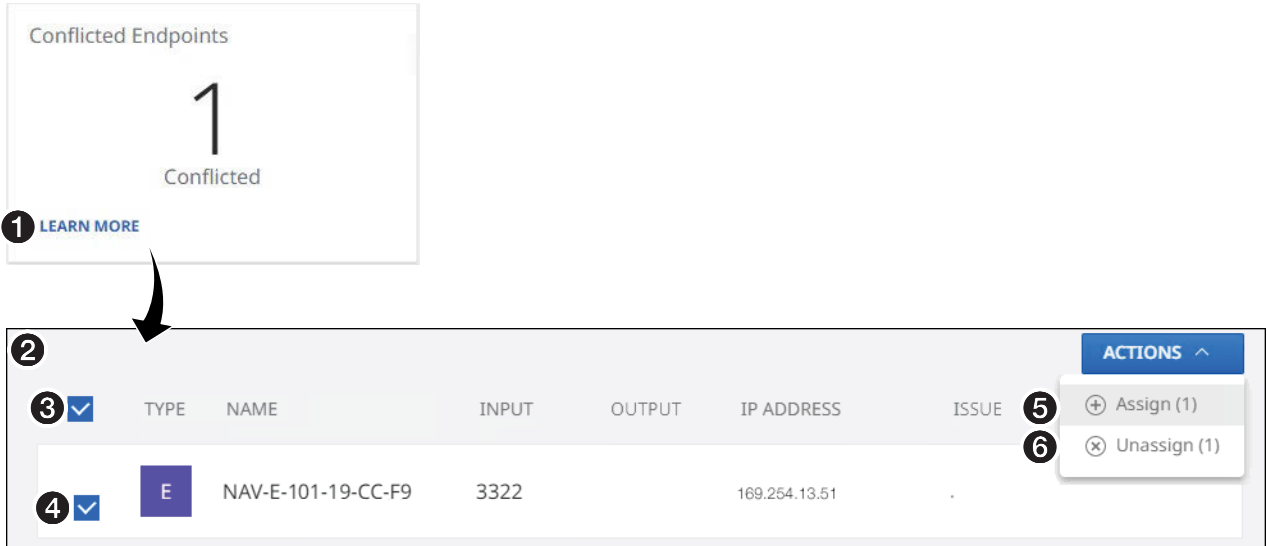

Figure 95. Identifying and Resolving an Endpoint Conflict
Figure 95 shows the indication if an endpoint is conflicted. Click **Learn More** (1) to identify the conflicted endpoint (2).